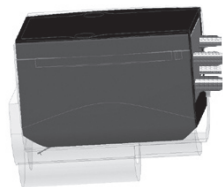

Figure 4
- Using an appropriate tool, attach the four color coded wire lead connections coming from the front underside of the Tone Arm onto the rear of the McIntosh Moving Coil Cartridge as follows. Refer to figures 4, 5, 6 and 8.